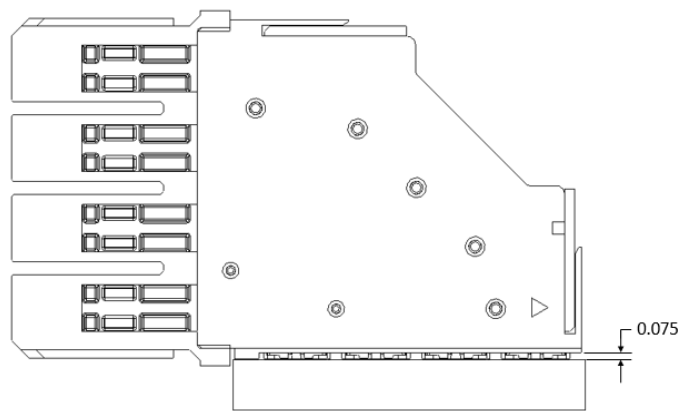

Figure 8: 0.075 mm maximum height off board surface
Step 9. Visually identify the plastic standoff on the stiffener side of the connector, contacting the board surface. This standoff cannot be more than 0.075mm from the board surface, and there should be minimal visible difference in height between adjacent wafers (see Figure 8).